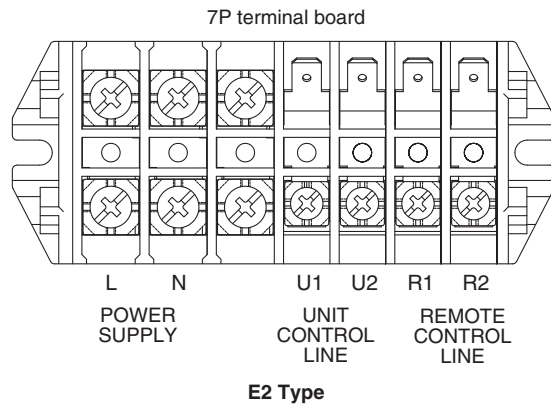

Fig. 4-2
- (1) Refer to Section 4-2. "Recommended Wire Length and Wire Diameter for Power Supply System" for the explanation of "B", "C", "D" and "E" in the above diagram.
- (2) The basic connection diagram of the indoor unit shows the terminal boards, so the terminal boards in your equipment may differ from the diagram. (Fig. 4-2)
- (3) Refrigerant Circuit (R.C.) address should be set before turning the power on.
- (4) Regarding R.C. address setting, refer to the installation instructions supplied with the remote controller (optional). Auto address setting can be executed by remote controller automatically. Refer to the installation instructions supplied with the remote controller (optional).